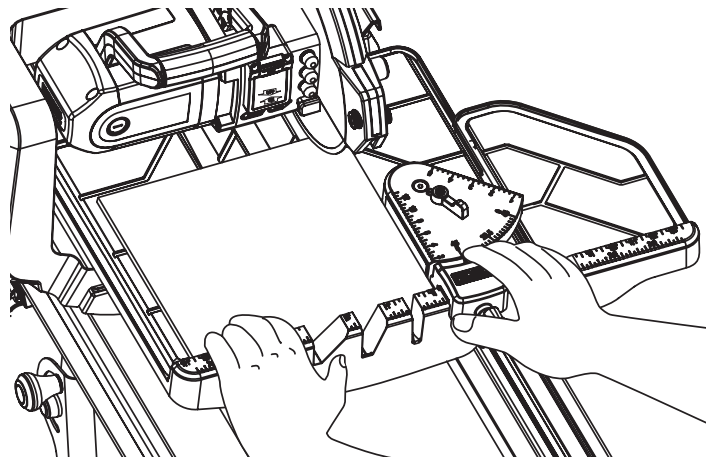

Fig. 44
6. Ease the work table towards the blade to slowly feed the tile into the blade. Continue pushing until the blade cuts completely through the tile (Fig. 44).